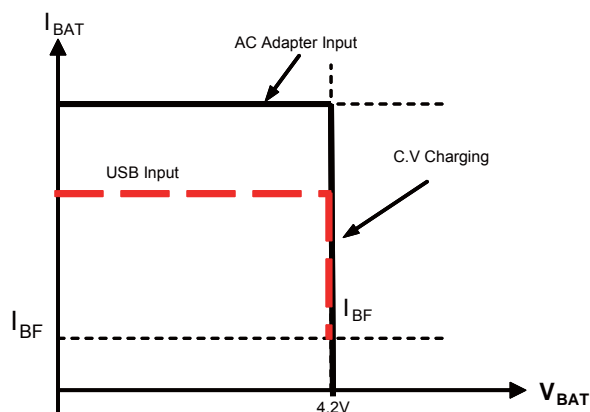

Figure 2—MP26056 Typical Charging Profile
Figure 2 below shows the typical charging profile for the MP26056. The MP26056 will start with the Constant Current charge of the programmed value ( $I_{CHG}$ ) based on  $R_{setx}$ . This is referred to as Constant Current (CC) mode. Once the battery voltage reaches 4.2V, the charger will operate in the constant voltage (CV) mode until the battery is fully charged. The charge current drops during CV mode, and the battery full indication is set when the charge current reduced to the preset value based on  $R_{IBF}$ , but the charger keeps charging the battery until battery reach 4.2V when AC adaptor is used as supply. If USB is